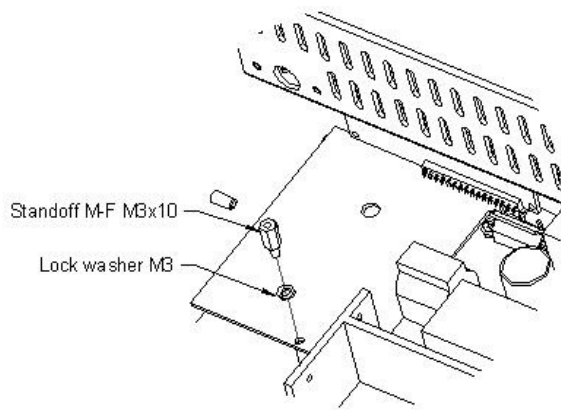

Figure 1
2. Check if the addressing card has a standoff attached, if not use the standoff and lock washer provided to create the mounting point for the W-DMX card as shown in Figure 1